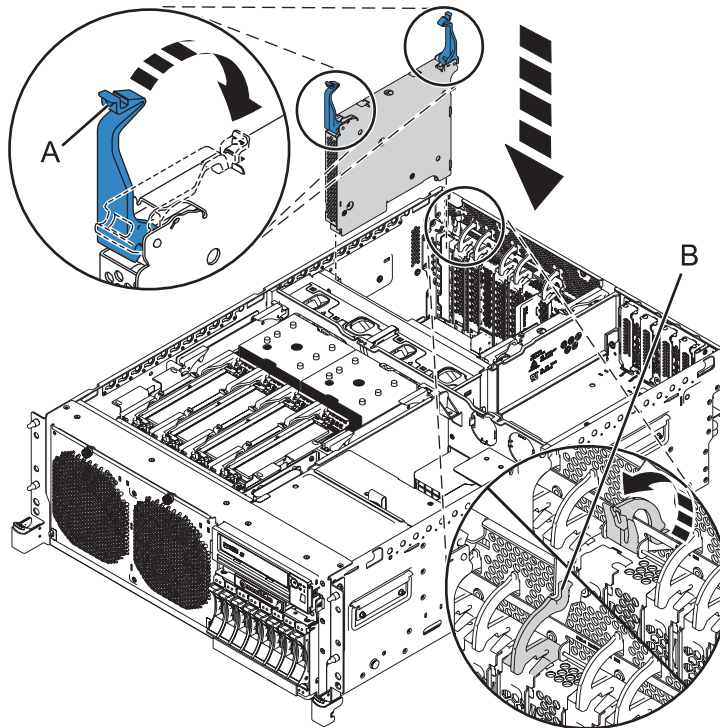
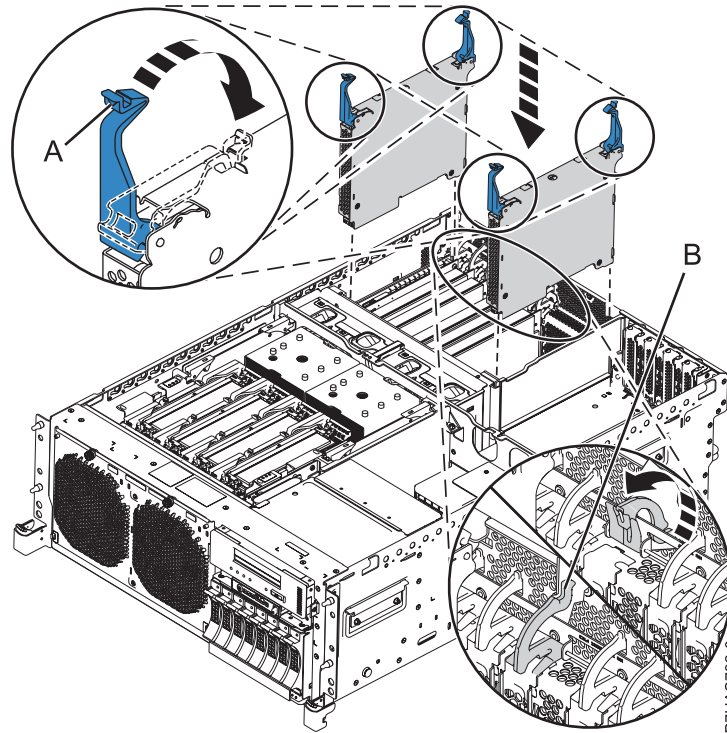

Figure 3. Installing the GX adapter in a rack-mounted 02E/4B or 05F/6B system
Figure 4. Installing the GX adapter (FC EJ03) in a rack-mounted 02E/4C, 02E/4D, 05E/6C, or 05E/6D system
11. Evenly rotate the latches **(A)** into the locked position, as shown in Figure 3 and Figure 4 on page 5.